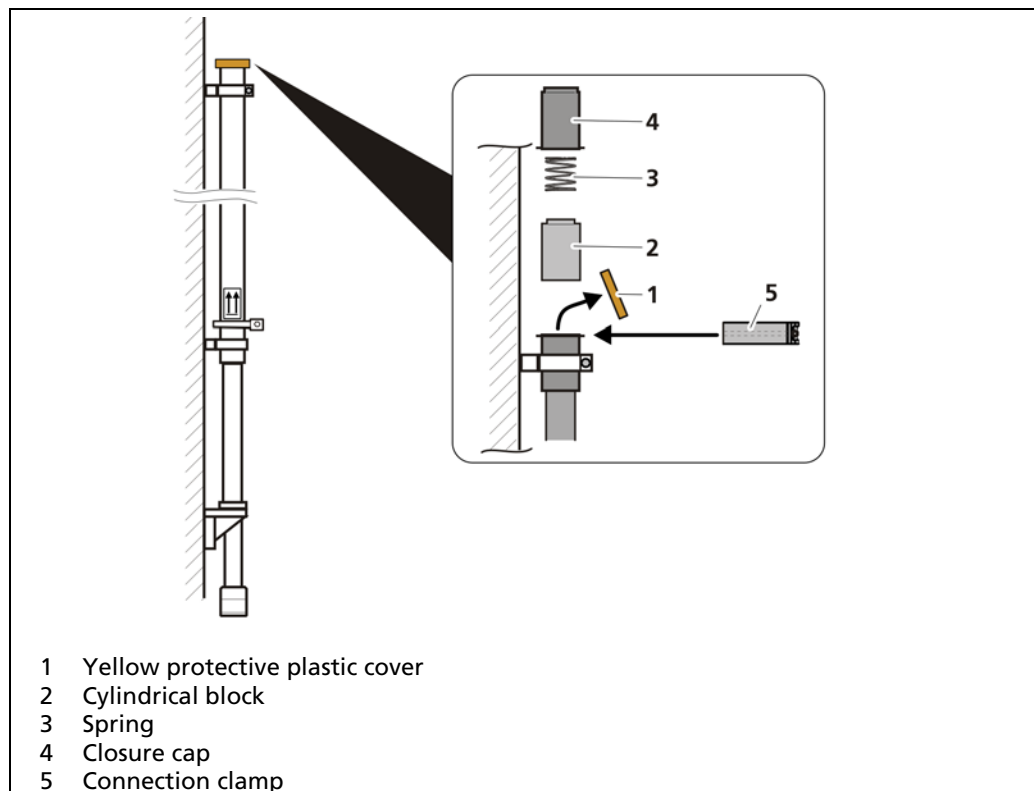

Fig. 19 Install last extension module
21. Remove the yellow protective plastic cover (Fig. 19, item 1) from the end of the last extension module. **Attention: The protection foil (mirror foil) must remain at the silicon pad and the closure cap.**
22. Place cylindrical block (Fig. 19, item 2) and spring (Fig. 19, item 3) onto the end face of the extension module.
23. On top, place the metal closure cap (Fig. 19, item 4) onto the spring.
24. Press the metal closure cap onto the extension module and join them with a connection clamp (Fig. 19, item 5).